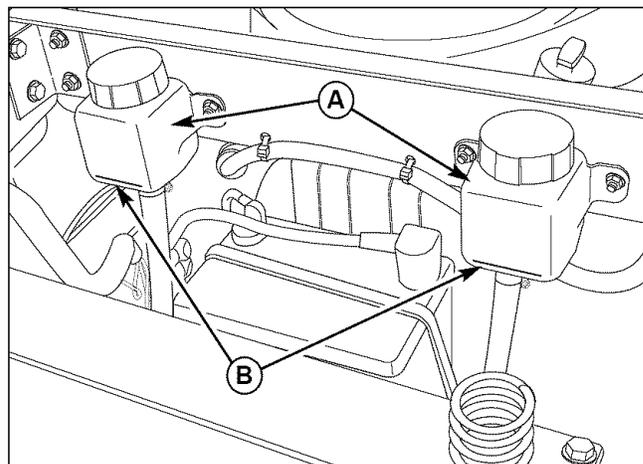

Figure 33. Transmission Oil Reservoirs
1. Check the oil level when the unit is cold. Raise the seat plate to gain access to the transmission oil reservoirs (A, Figure 33). The oil should be up to the "FULL COLD" mark (B). If the oil is below this level, proceed to step 2.
3. Add oil up to the "FULL COLD" mark (B, Figure 33).